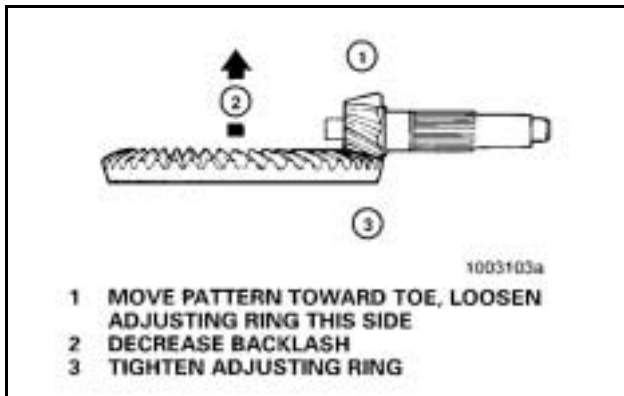

Figure 121
- a. Decrease backlash to move the contact patterns toward the toe of the ring gear teeth. **Figure 121**.